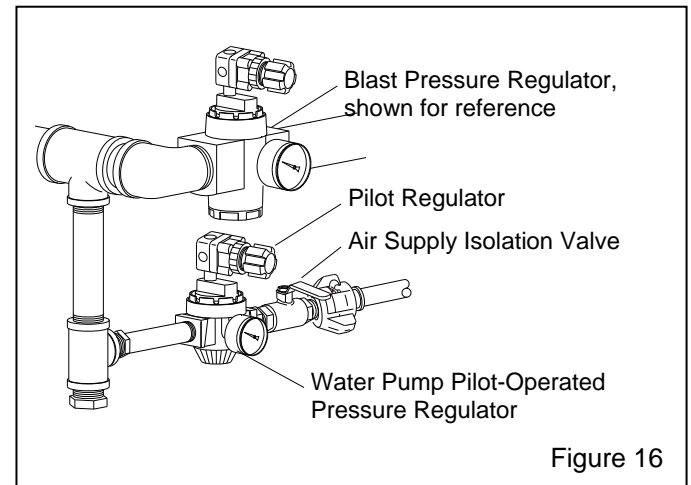

Figure 16
4.1.2.7 Make sure the air supply isolation valve (located on the outlet side of the water pump's pilot-operated regulator as shown in Figure 16) to the pump module is closed.
4.1.2.8 Refer to Figure 16 and turn the pilot regulator control knob counterclockwise to approximate "0" psi.
4.1.4.2 Refer to Figure 16 and open the pump's air supply isolation valve.